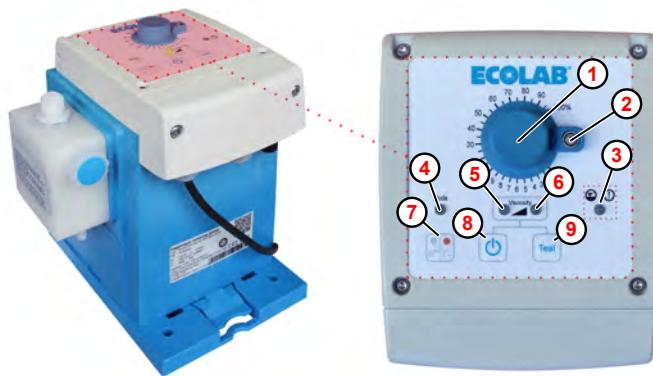

Fig. 15: On/Off button of the 'EcoUp'
- ① Dosing rate adjustment dial
- ② Dosing volume adjustment lock
- ③ LED – alarm signal, flashing red
- ④ Mode LED
- ⑤ Operating status / dosing mode Viscosity low LED
- ⑥ Operating status / dosing mode Viscosity high LED
- ⑦ Manual/Pulse mode toggle
- ⑧ On/Off switch
- ⑨ Test button
1. ➔ Switch the pump on and off using the ON/OFF button (Fig. 15 , ⑧).
Depending on the dosing mode selected, either the left LED (Fig. 15 , ⑤ , Viscosity low) or the right LED (Fig. 15 , ⑥ , Viscosity high) lights up or flashes.
1. The first time the pump is switched on, it is set to Manual mode, with the Mode LED (Fig. 15, ) OFF. The pump starts running as soon as it is switched on and the Mode / Dosing mode LED  or  lights green.